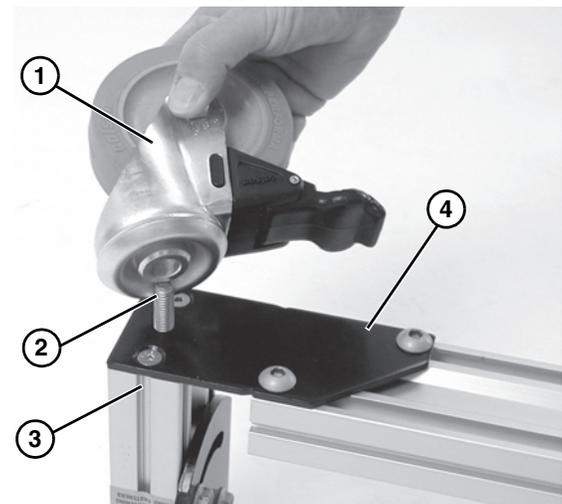

Figure 12
- Install caster (**Figure 12, item 1**) over bolt (**Figure 12, item 2**). Bolt is already assembled in stand leg (**Figure 12, item 3**) and through the tie plate (**Figure 12, item 4**).